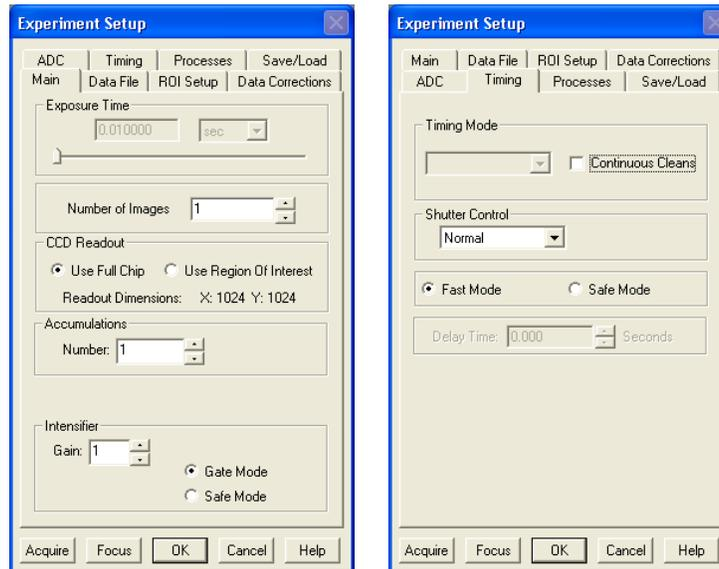
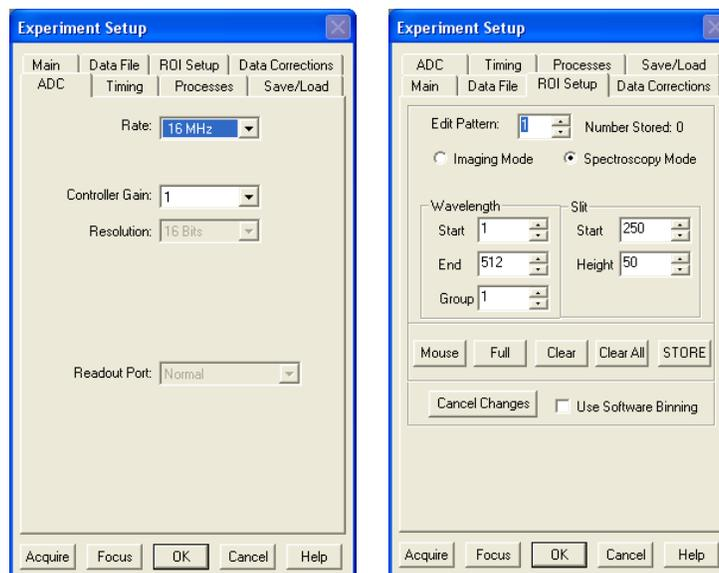
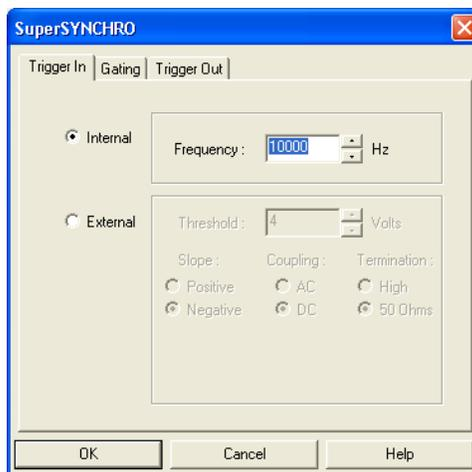

Figure 41. Experiment Setup: Main and Timing tabs
Figure 42. Experiment Setup: ADC and ROI Setup tabs
Figure 43. SuperSYNCHRO: Trigger tab
5. At this point, it is a good practice to make sure that the camera is focused by running it in “Internal Trigger” mode. This requires that you set the experiment parameters on the Experiment Setup tabs (refer to Figure 41 and Figure 42) and on the SuperSYNCHRO Trigger tab (Figure 43).